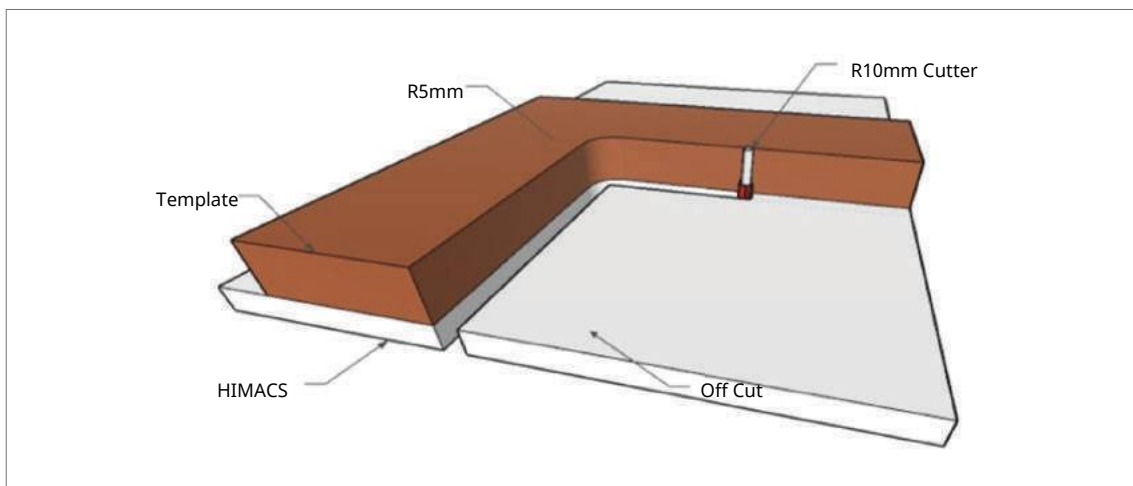

Fig.3
- Machine the cutout using a CNC router or a hand router with a straight cutter and a sleeve guide when using a template according to the hob dimension needs (Fig.3)